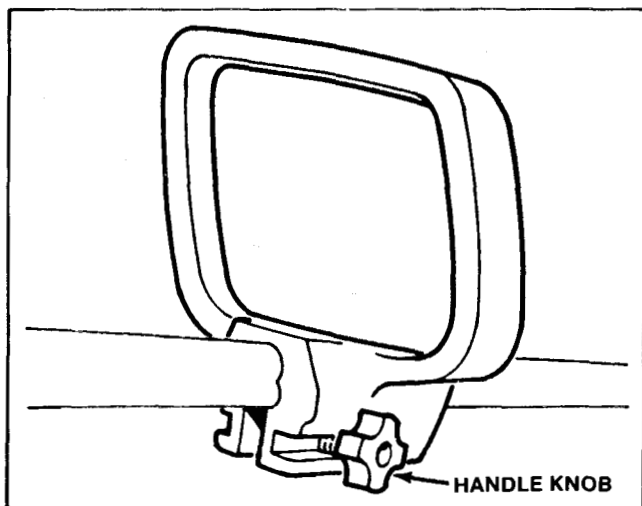

Figure 101
3. Loosen the handle knob. See Fig. 101.